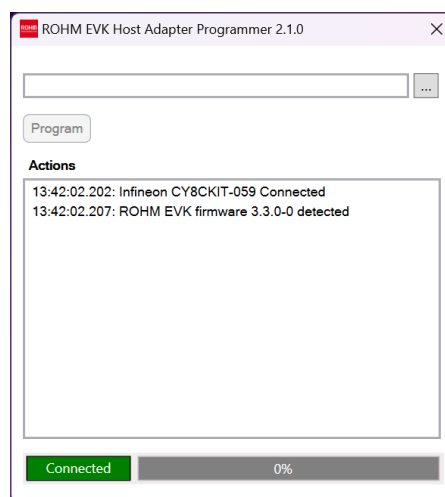

Figure 50 Firmware programming start / CY8CKIT-059
- Wait for the programmer to start and for the status to become Connected. (Figure 50)
- Press the “...” button to select a firmware image file (Figure 50). Firmware image files are in the %USERPROFILE%/Documents/ROHM_EVK/ROHM-EVK-Firmware/CY8CKIT-059/ directory. It depends on the host adapter which directory to choose.